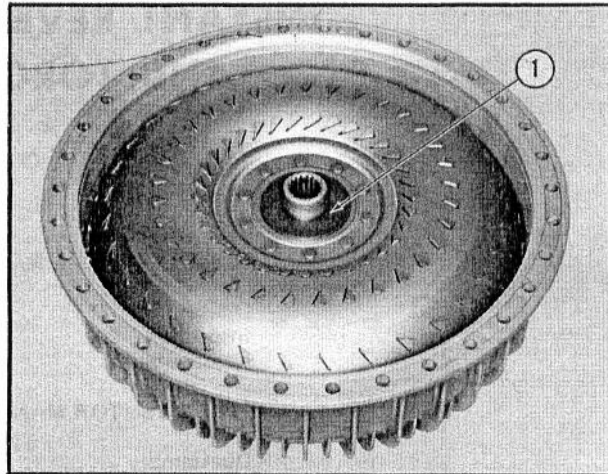

Fig. 3 - Torque Converter W/Front Cover Removed
3. Remove the turbine thrust washer. See Fig. 3.